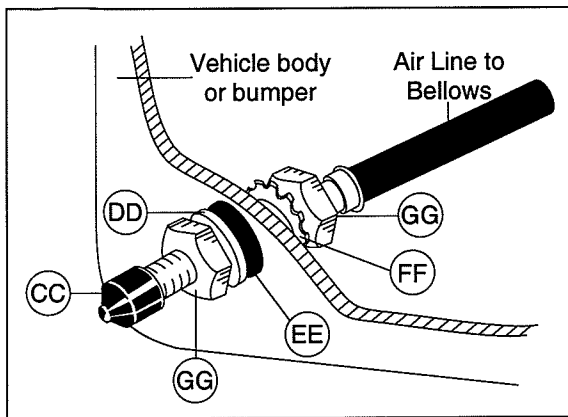

Figure 6
4. Place a  $\frac{5}{16}$ " nut (GG) and a star washer (FF) on the air valve. Leave enough of the inflation valve in front of the nut to extend through the hole and have room for the rubber washer (EE), flat washer (DD), and  $\frac{5}{16}$ " nut (GG) and cap (CC). There should be enough valve exposed after installation - approximately  $\frac{1}{2}$ " - to easily apply a pressure gauge or an air chuck (Figure 6).
5. Push the inflation valve through the hole and use the rubber washer (EE), flat washer (DD), and another  $\frac{5}{16}$ " nut (GG) to secure it in place. Tighten the nuts to secure the assembly in place (Figure 6).
6. Route the air line along the frame to the air fitting on the air spring. Keep at least 6" of clearance between the air line and heat sources, such as the exhaust pipes, muffler, or catalytic converter. Avoid sharp bends and edges. Use the plastic tie straps (BB) to secure the air line to fixed, non-moving points along the chassis. Be sure that the tie straps are tight, but do not pinch the air line. Leave at least 2" of slack to allow for any movement that might pull on the air line.